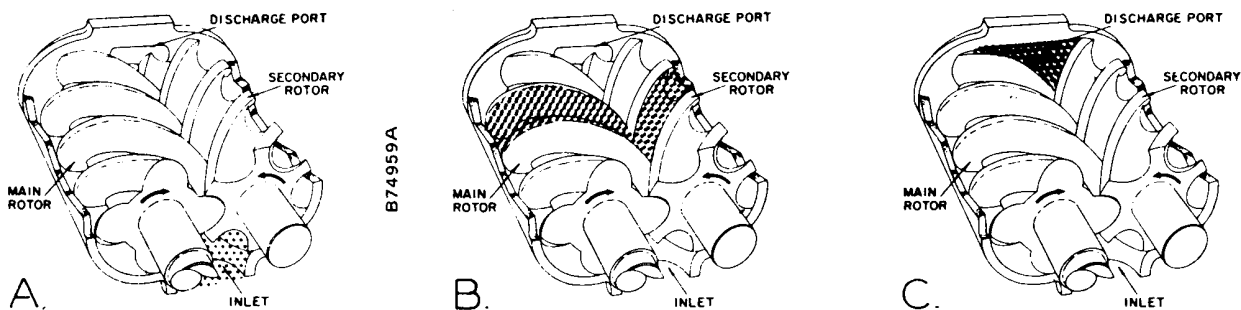

Figure 1-1 – COMPRESSOR CYCLE
COMPRESSION PRINCIPLE (Figure 1-1) - Compression is accomplished by the main and secondary rotors synchronously meshing in a one-piece cylinder. The main rotor has five (5) helical lobes 72° apart. The secondary rotor has six (6) matching helical grooves 60° apart to allow meshing with main rotor lobes.
The air inlet port is located on top of the compressor cylinder near the drive shaft end. The discharge port is near the bottom at the opposite end of the compressor cylinder. Figure 1-1 is an inverted view to show inlet and discharge ports. The compression cycle begins as the rotors unmesh at the inlet port and air is drawn into the cavity between the main rotor lobes and the secondary rotor grooves (A). When the rotors pass the inlet port cutoff, air is trapped in the interlobe cavity and flows axially with the meshing rotors (B). As meshing continues, more of the main rotor lobe enters the secondary rotor groove, normal volume is reduced and pressure increases.